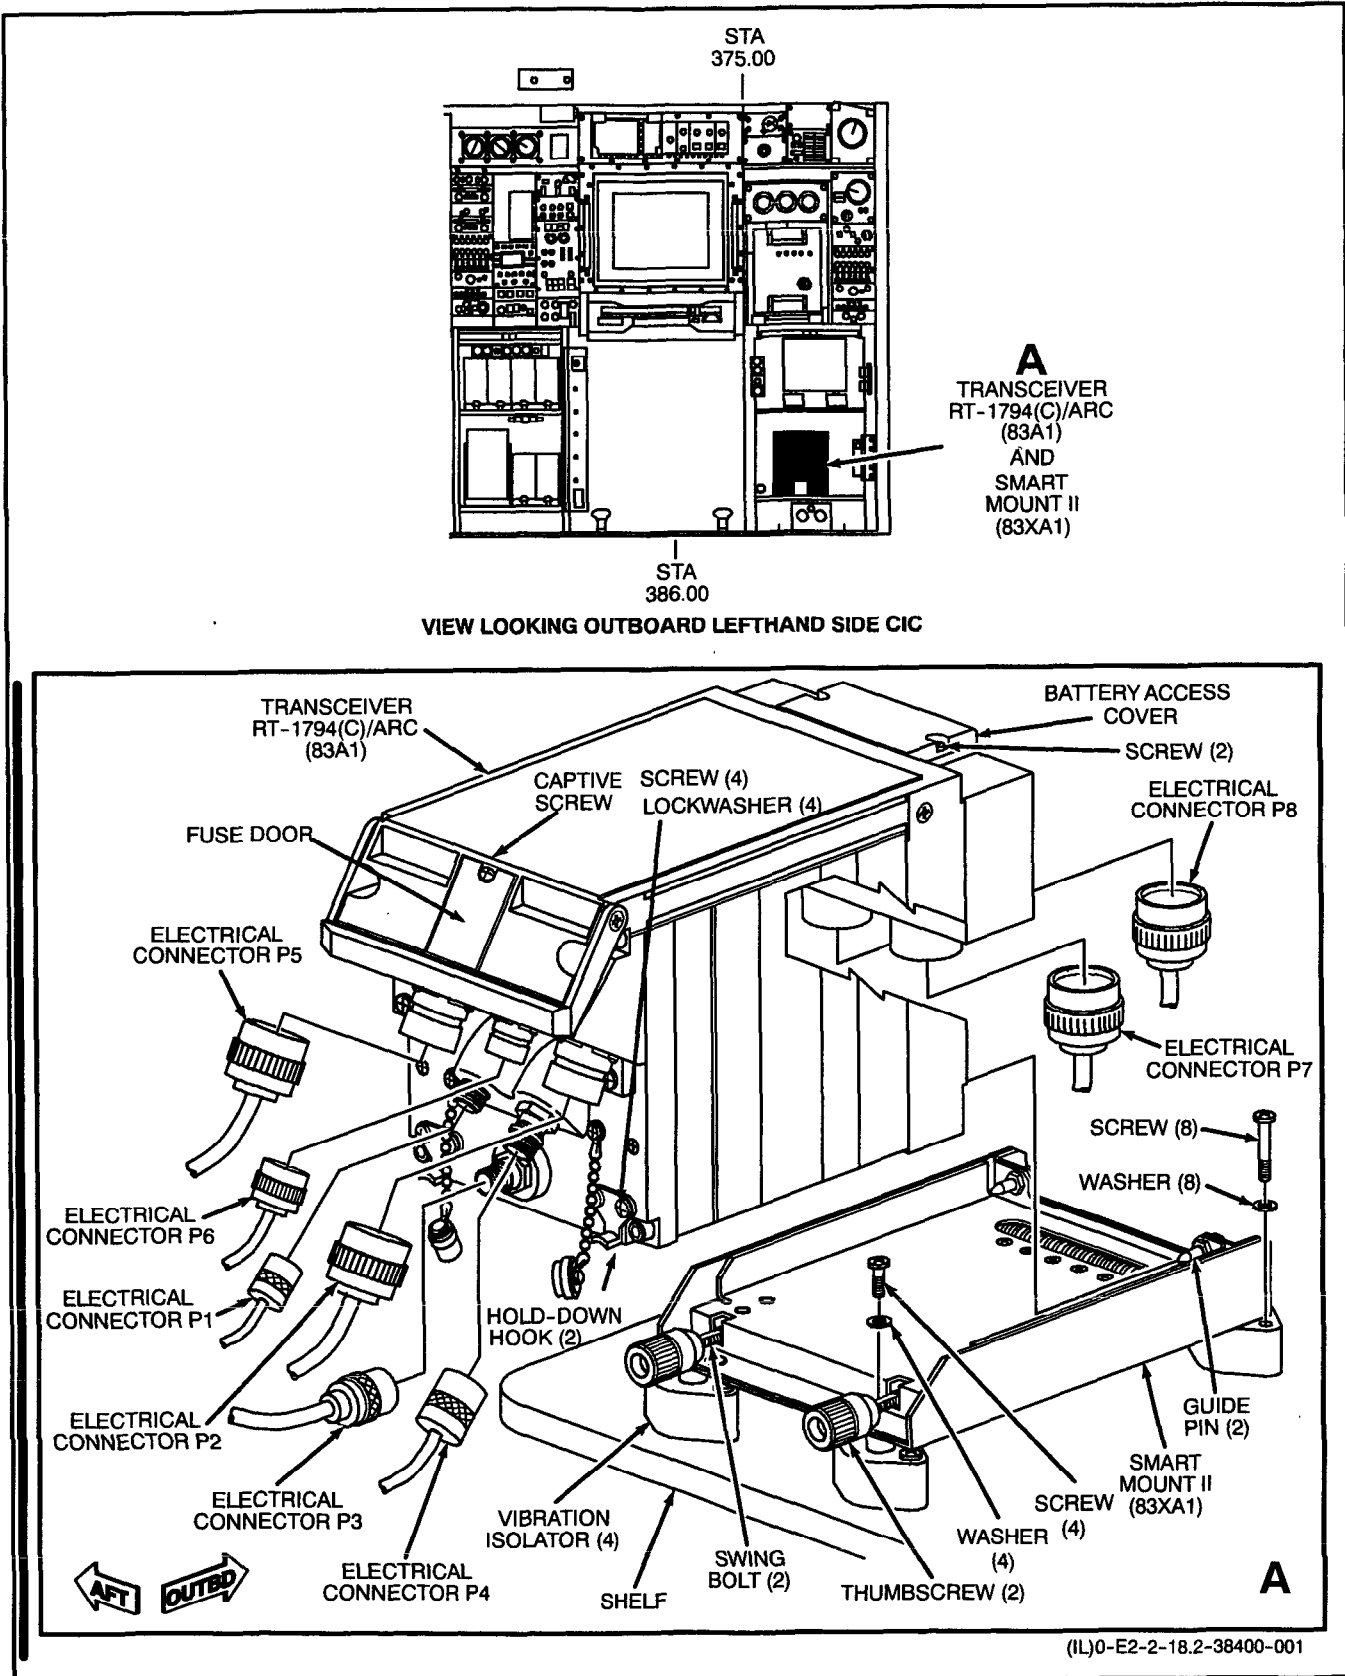

Figure 1. Removal and Installation of Transceiver RT-1794(C)/ARC (83A1) and Smart Mount II (83A1)
2. **REMOVAL.** (Figure 1.)
### 3. INSTALLATION. (Figure 1.)
#### 5. REMOVAL. (Figure 1.)